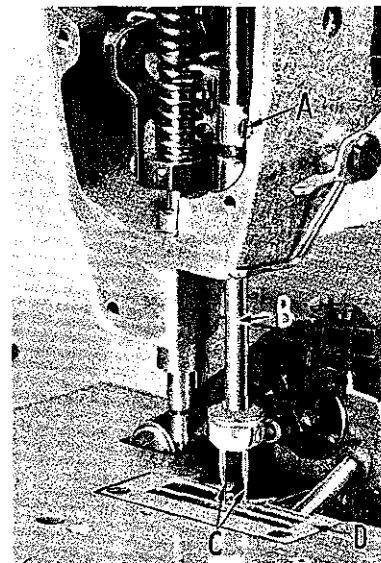

Fig. 2
Align needle bar by using a new set of needles Type 108 GS, of a size to meet the requirements. Loosen screw (A, Fig. 2) and turn needle bar (B) so that the needles (C) center in the front end of the needle slots in the throat plate (D), and retighten screw. The height of the needle bar is set so that the top of the rear needle's eye is  $\frac{1}{32}$  inch below the back looper, when point of looper, moving to the left, is even with the left side of this needle.